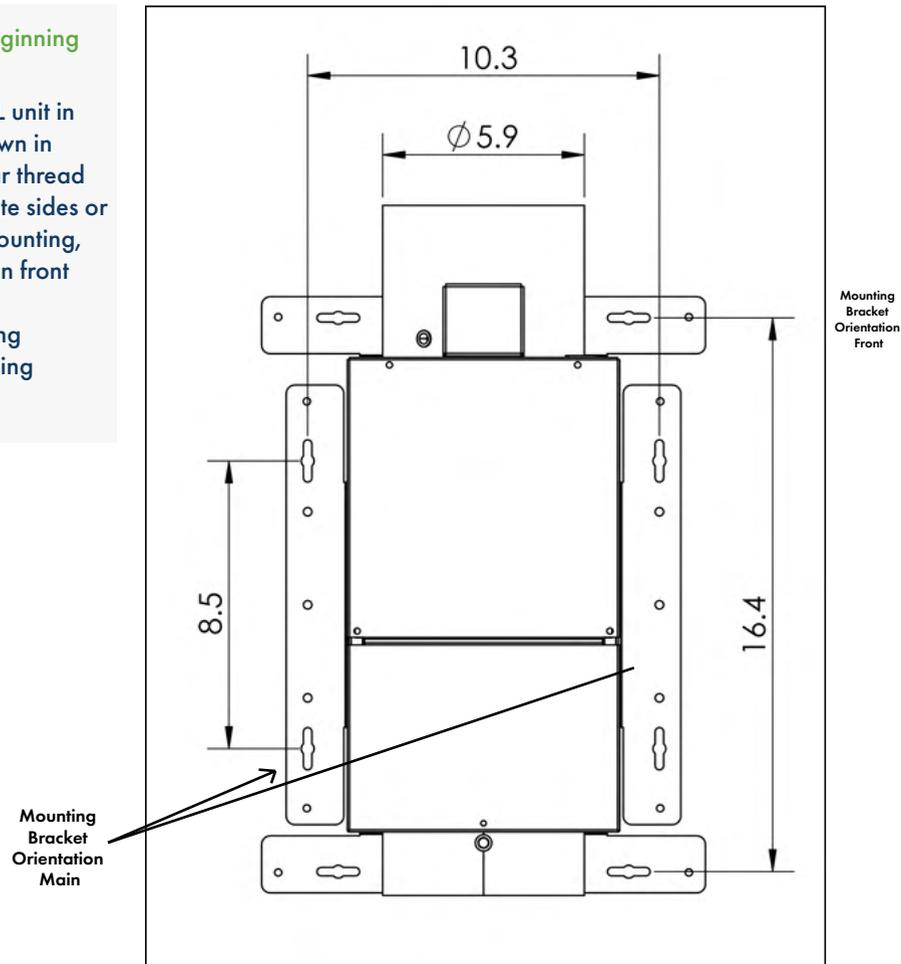

Figure 3: FAPV-L Mounting Dimensions
1. Attached the mounting brackets to the FAPV-L unit in either of the two positions (main or front) shown in Figure 3, using the supplied BM4x8 triangular thread screws. The brackets must either be on opposite sides or opposite ends of the FAPV-L fan for secure mounting, as indicated by orientation main or orientation front configuration.